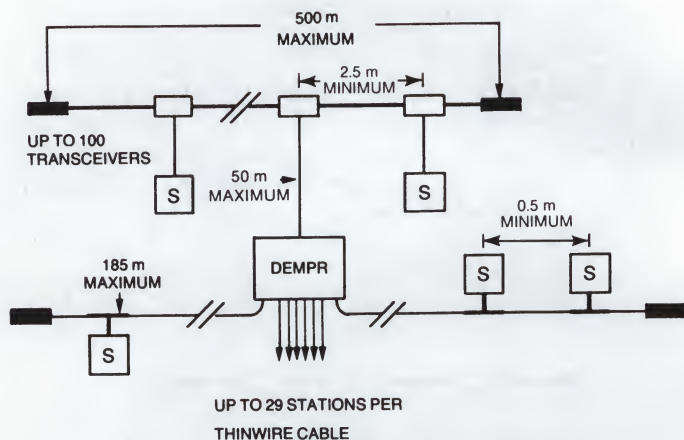

Figure A-12 • DEMPR on a Standard Ethernet Coaxial Cable
- A DempR can be connected to a Standard Ethernet coaxial cable by a 5-to-50 meter (16.5-to-165 foot) transceiver cable and a transceiver (Figure A-12).